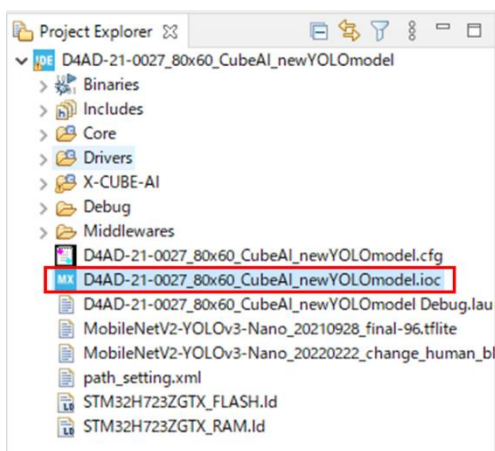

Fig. 6.11 Project explore
- Double-click "D4AD-21-0027\_80x60\_CubeAI\_newYOLOmodel.ioc" in Project Explorer, as shown in Figure 6.11.